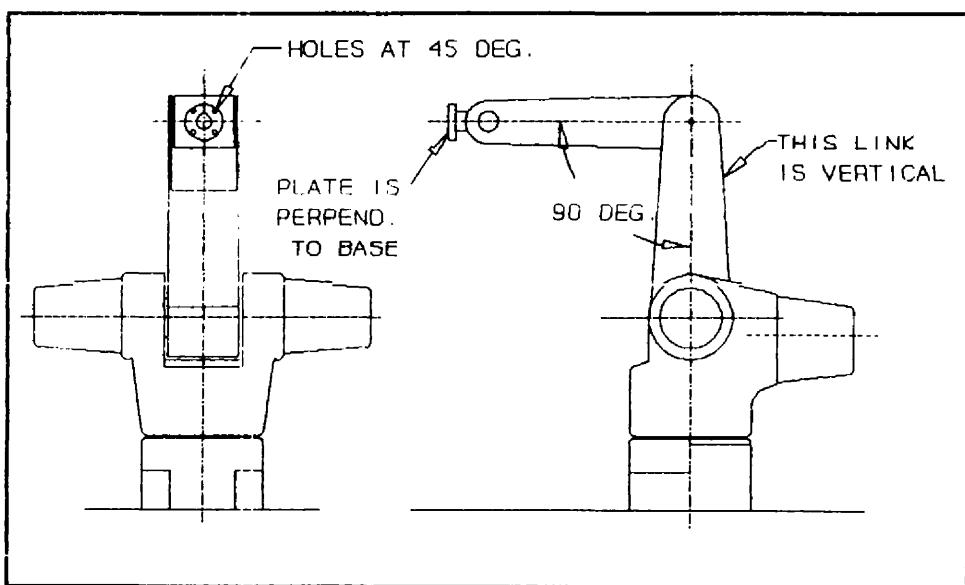

FIGURE 4-1 Arm at READY Position
1. Move arm to READY position shown in FIGURE 4-1.